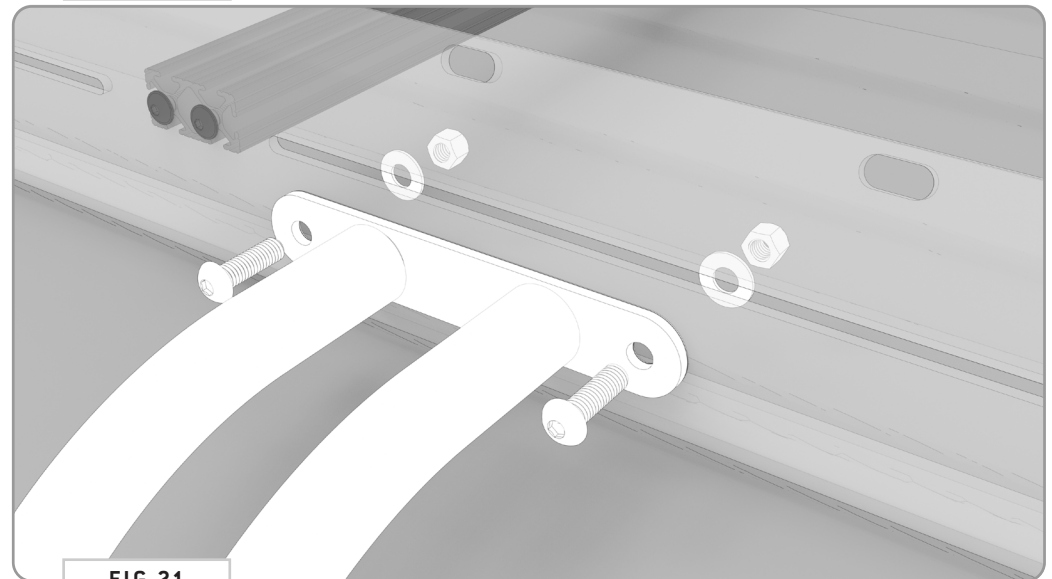

FIG 21
**5.4 Attach to Roof Rack (Low Pro):** Loosely attach your **Surf Pole** to the drilled out mounting holes as shown (**FIG 21**) using the provided **3/8-16" Button Head Screws, Flat Washers and Nylon Locknuts**.